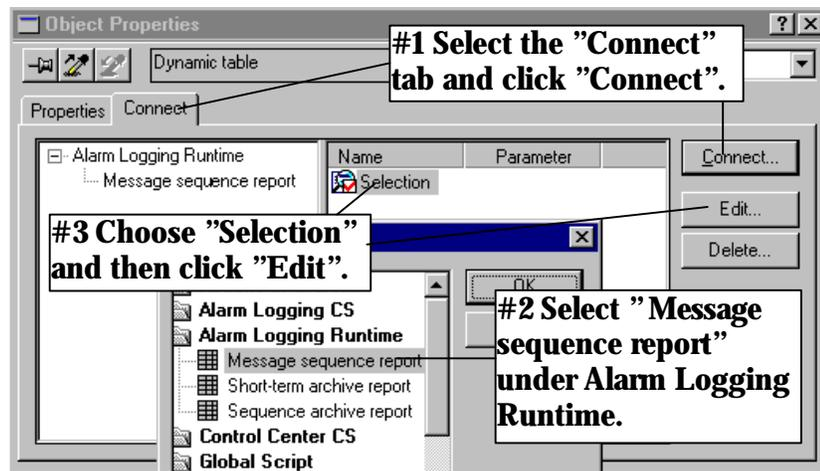

Figure 5.4 WinCC Project "QckStart"; Properties of the Message Sequence Report Layout
3. Make sure the "Message sequence report" is selected under the "Alarm Logging Runtime". Click OK. Refer to Figure 5.4.